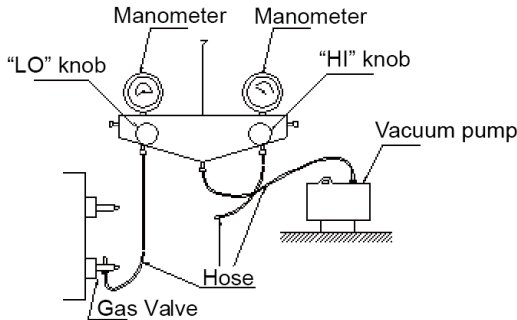

Fig. 6
- 3) As shown in the following figure (Fig.6), expel the gas inside the indoor unit and refrigerant pipe out by the vacuum pump.